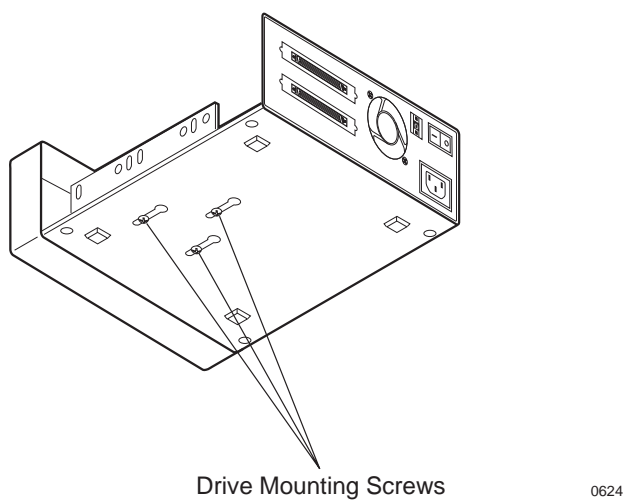

Figure 9: Loosen the Drive Mounting Bracket Screws (DS50 1-Bay Shown)
2. Loosen but do not remove the three (3) screws that secure the drive mounting bracket to the Data Silo chassis (Figure 9).